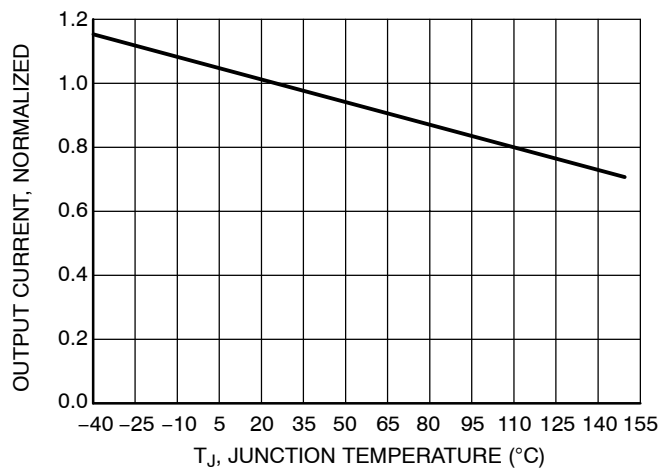

Figure 5. Current Regulation vs. Junction Temperature
10. Calculate the junction temperature using the thermal information on Page 7 and refer to Figure 5 to check the output current drop due to the calculated junction temperature. If desired, compensate it by adjusting the value of R_{ext} .